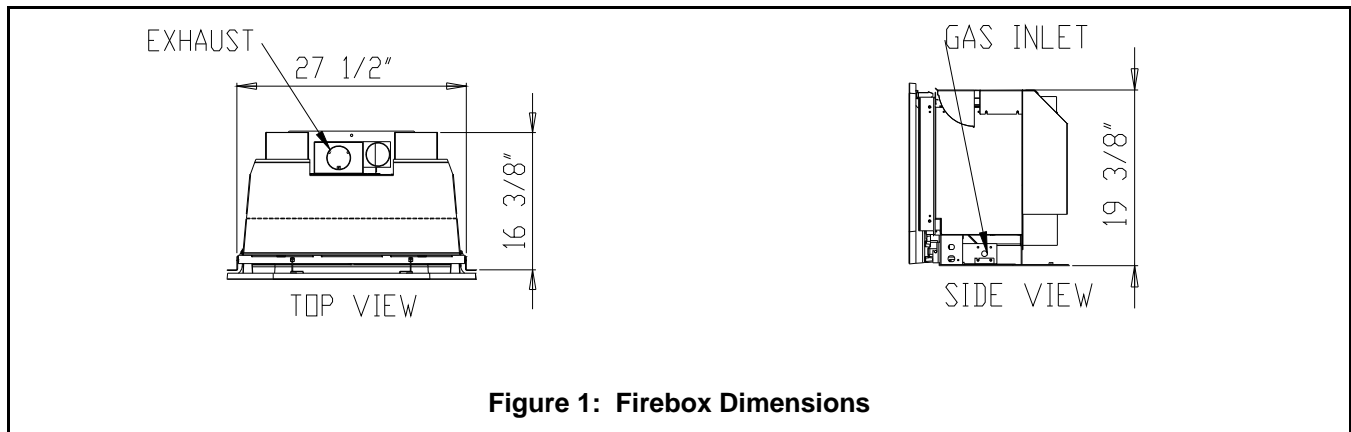

Figure 1: Firebox Dimensions
3. If necessary, remove the smoke shelf, internal baffles, screen, masonry lining and doors. (see the Dimensions in *Figure 1*).
the center of the unit, the intake adaptor collar is on the right side of the stove (*refer to Figure 1, on page 7*) Install the restrictor if necessary. Slide a hose clamp over the ends of both flexible vent pipes. Place the flexible vent pipe marked "intake" onto the intake collar, place the flexible vent pipe marked "exhaust" onto the exhaust collar. Secure them to the collar adaptors by tightening the hose clamps with a slotted screwdriver or 5/16" nut driver.